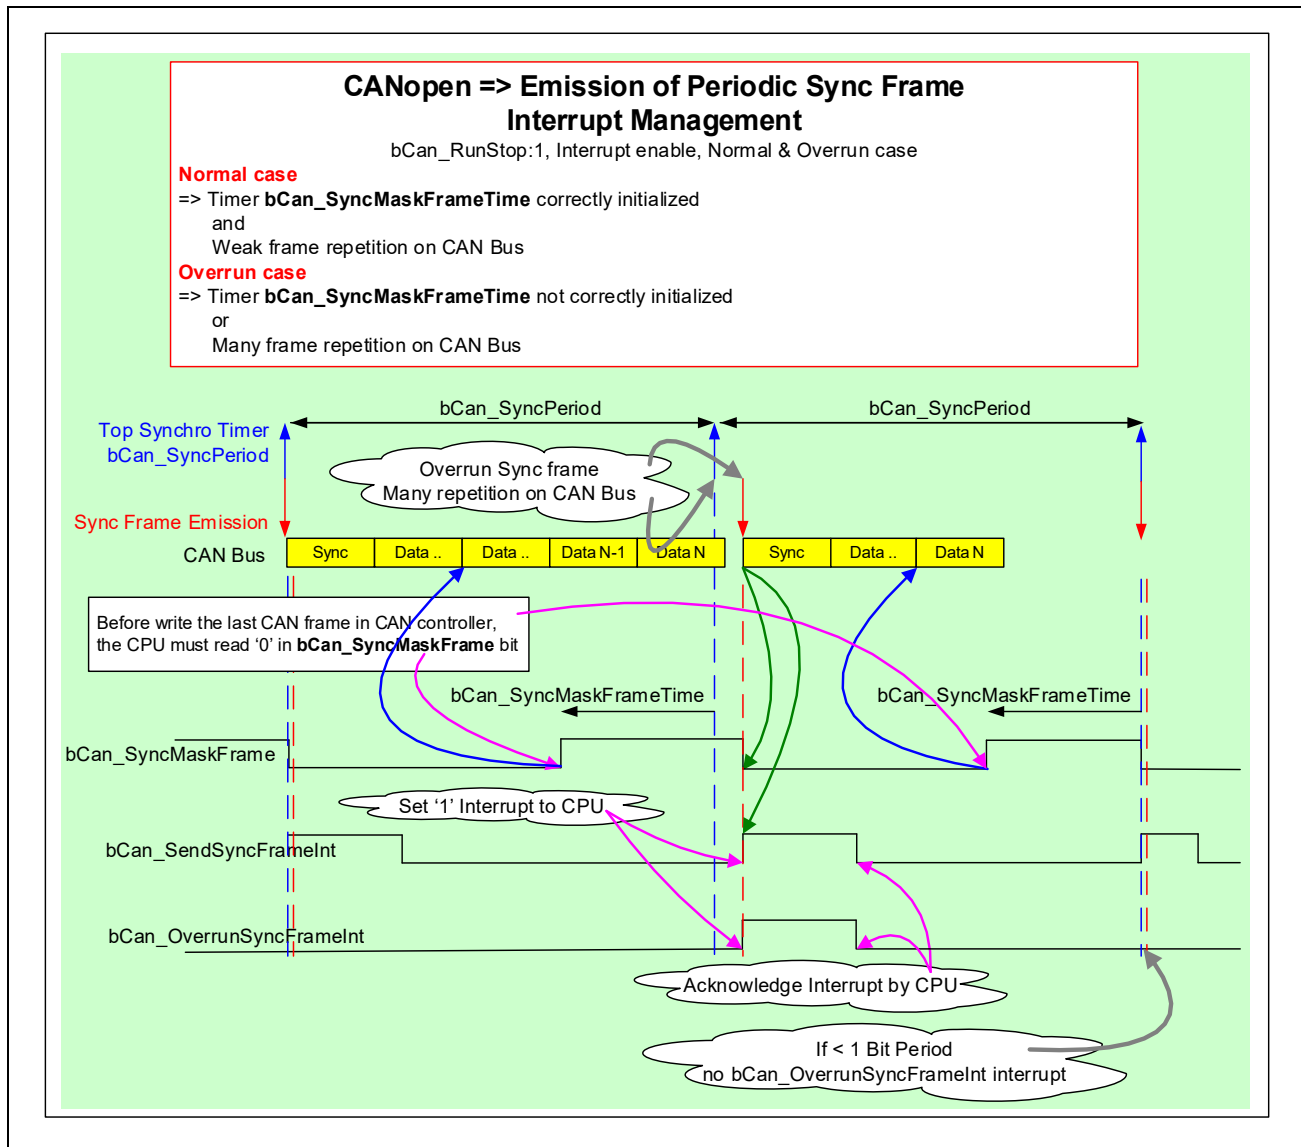

Figure 6.6 CANopen: Interrupt Management on Periodic Sync Frame
- See **Figure 6.6, CANopen: Interrupt Management on Periodic Sync Frame**.
See **Figure 6.6, CANopen: Interrupt Management on Periodic Sync Frame**.